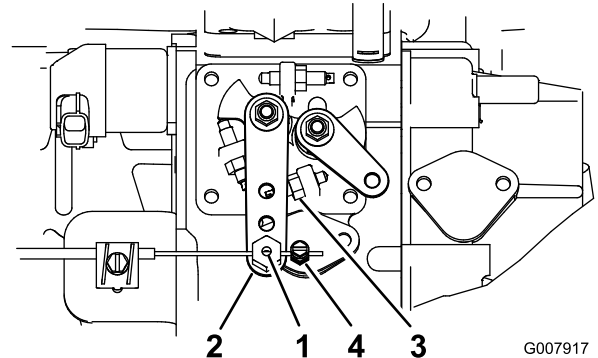

Figure 56
2. Loosen the throttle-cable connector, on the throttle cable, next to the injection-pump lever (Figure 56).
3. Hold the injection-pump-lever arm against the high idle stop (Figure 56).